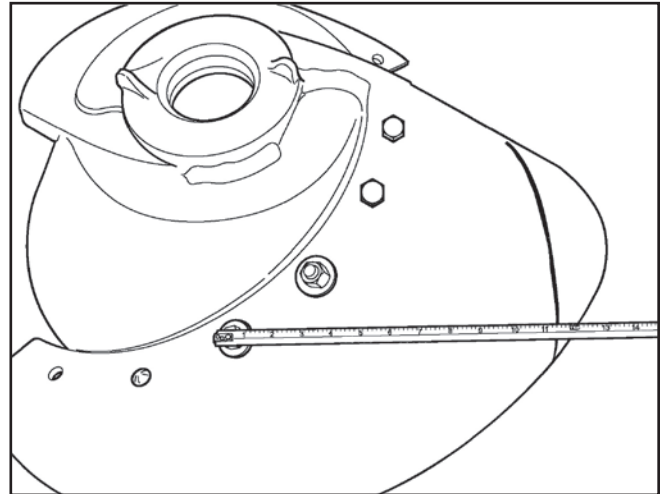

Figure 26.3
- Replacement is indicated when wear progresses into mounting bolt holes, or feeding is noticeably affected. Your Case IH dealer can refer to Service Bulletin NHE SB 029 05 for the correct method to measure impeller wear to determine if replacement is suggested (see figure 26.3).